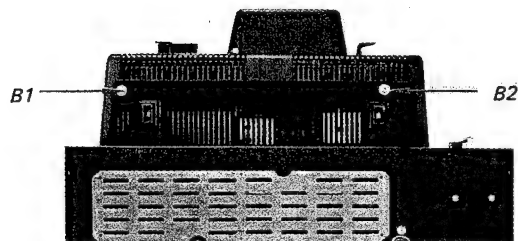

Fig. 2-2.
4. Remove the two screws at the bottom labeled B1~2 in Fig. 2-2.